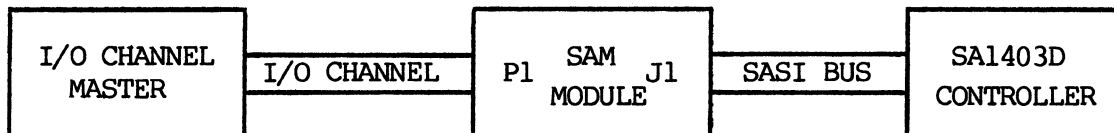

FIGURE 2-4. Typical SAM Interface Cabling Diagram
This section describes how to install a SAM into a VME chassis or a 5-slot I/O module card cage. A typical configuration is shown in Figure 2-4. Before making any connections, ensure all power has been removed from the VME chassis or 5-slot I/O module card cage.
2.4.1.2 Peripheral Connection. Peripheral connection to the SAM is accomplished by mating a double-row, 50-pin, female ribbon connector (such as a 3M 3425-5000) to male connector J1, as shown in Figure 2-4. Printer cable assembly, Motorola part number M68KVMPTCE, can be used. Connect the other end of the SASI ribbon cable to the SA1403D controller.